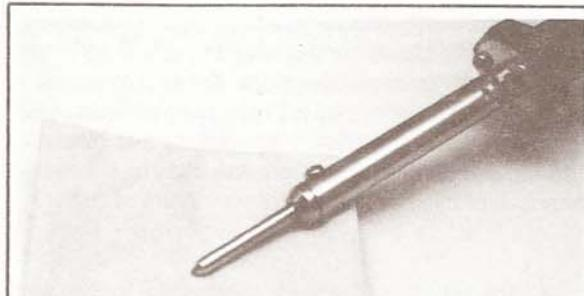

FIG. 1
4. KEEP THE TIP CLEAN - To keep the tip clean and free of excess solder and oxidation, wipe it from time-to-time on a damp sponge or cloth (See Fig. 1).